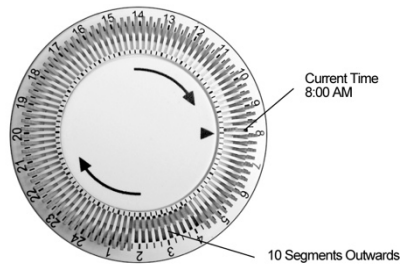

Fig 2
3. Push segments inwards for the period you want the heater to be off. For example, Fig 2 shows that the appliance will be off from 2 A.M. to 4.30 A.M. See Fig. 2 (10 segments pushed inwards).